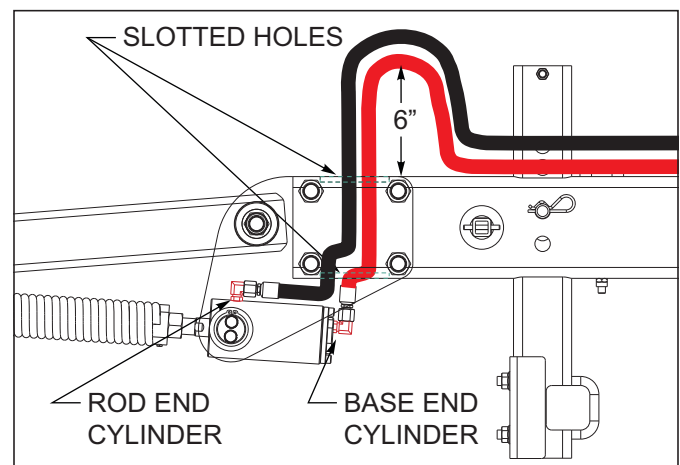

Figure 3-26: Hose to Cylinder Installation
10. On hydraulic 3BDT/Chopper Reel option, attach hoses down through the slotted holes of combo harrow mount arm to cylinders as shown See Figures 3-26. The one hose hooks to base end of cylinder to top set of holes of 8 port manifold, rod end to bottom holes of manifold.